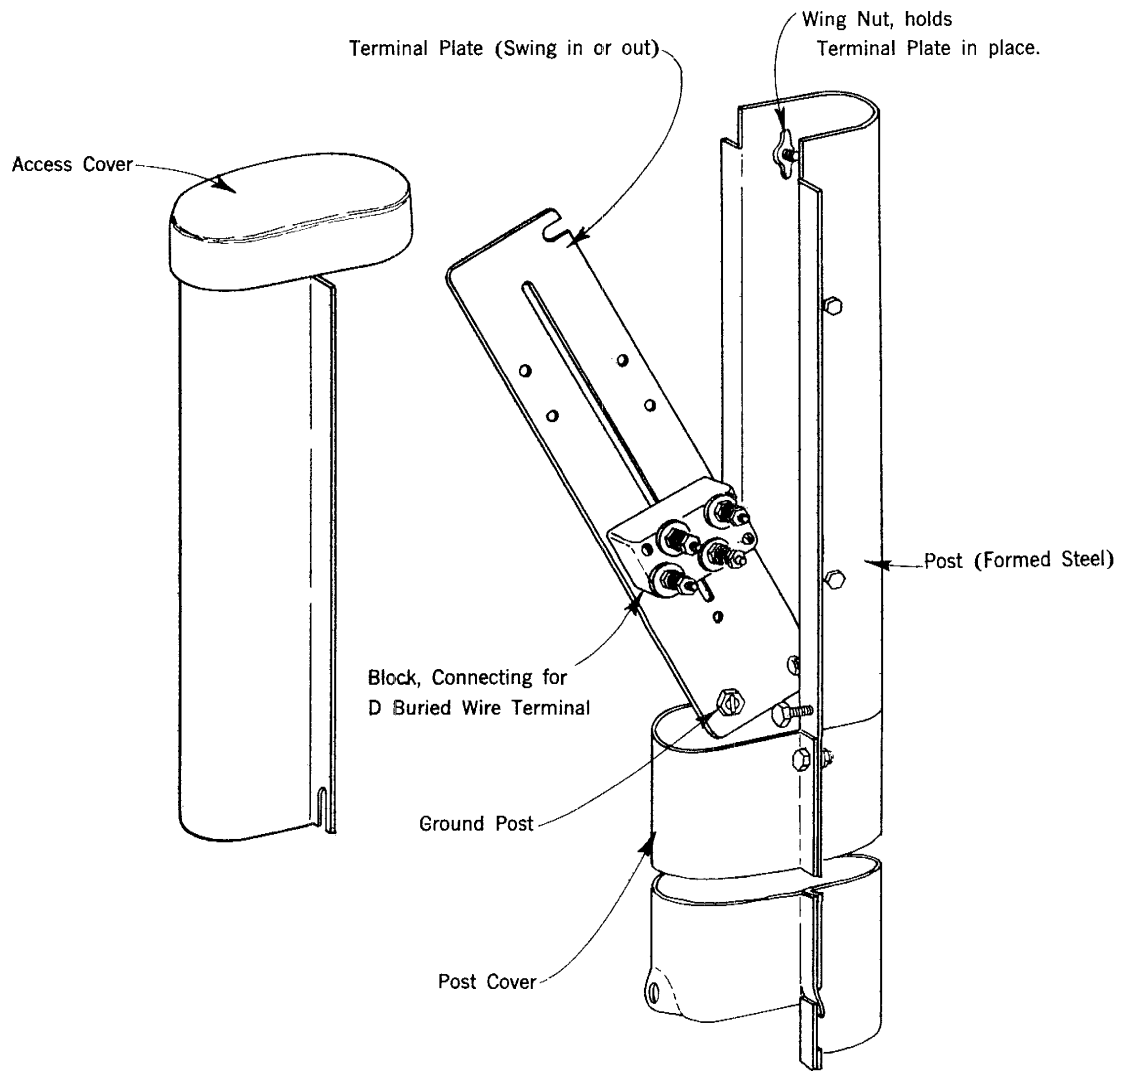

Fig. 1 — D Buried Wire Terminal
- 2.01 The D Buried Wire Terminal is illustrated in Fig. 1.